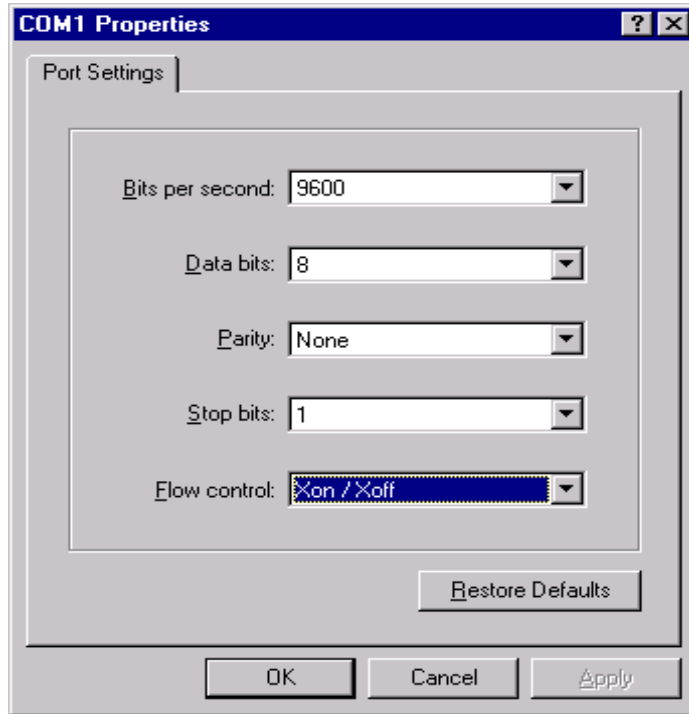

Figure 1-3
- 5) Then a window with COM 1 Properties should pop up as shown in figure 1-3. Make sure you change **Bits per second** to **9600**, and **Flow control** to **Xon/Xoff**, as shown in figure 1-3. Once these are entered then click OK.